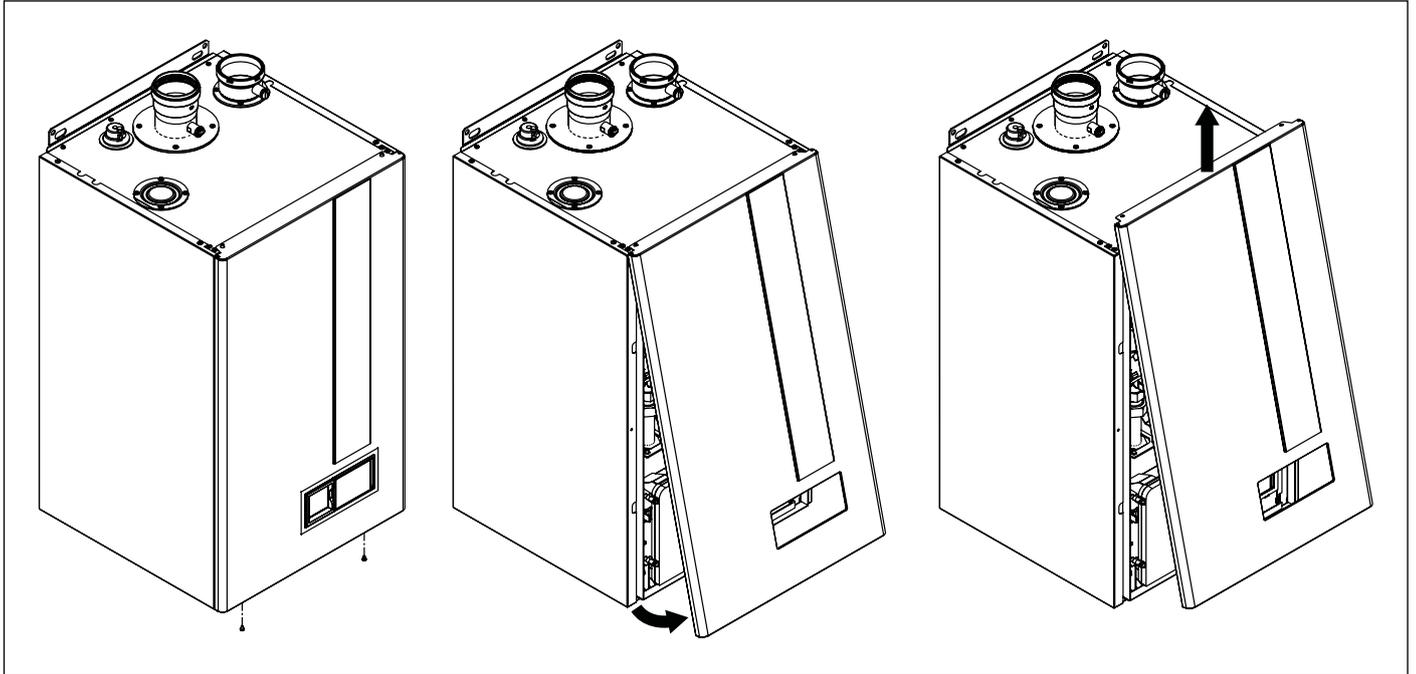

Fig. 26 Casing opening
- Remove the boiler front casing (see Fig. 26 Casing opening).